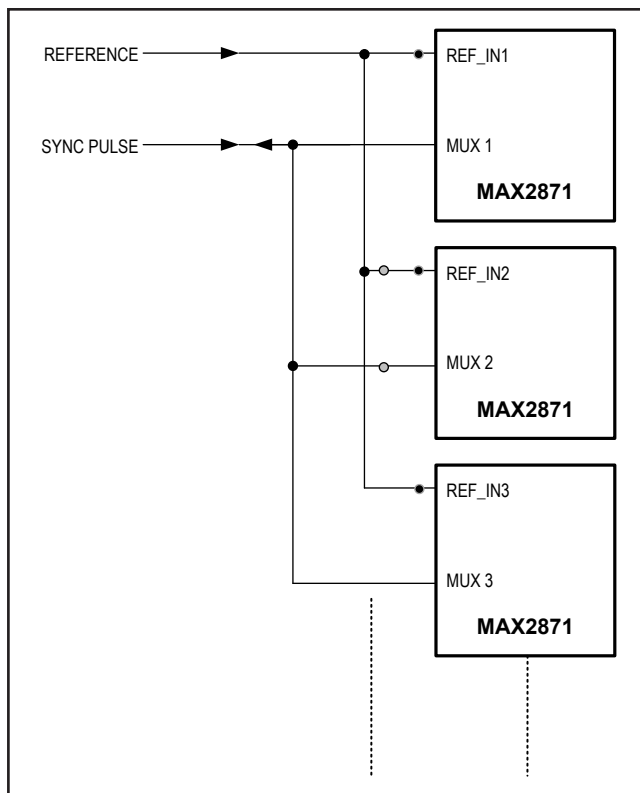

Figure 5. Phase Synchronization Application Setup
- Connect all MAX2871 to same reference source. Refer, Figure 5